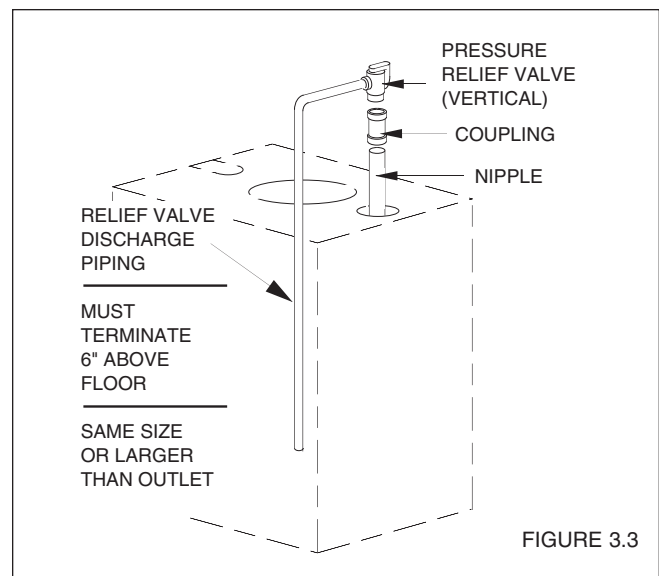

FIGURE 3.3
**PRESSURE RELIEF VALVES:** One supplied for each module. Install relief valves with spindle in the vertical position (i.e., valve discharge in horizontal) with coupling and nipple in 3/4" tapping at top of modules. Install field-supplied valve discharge piping (Figure 3.3).